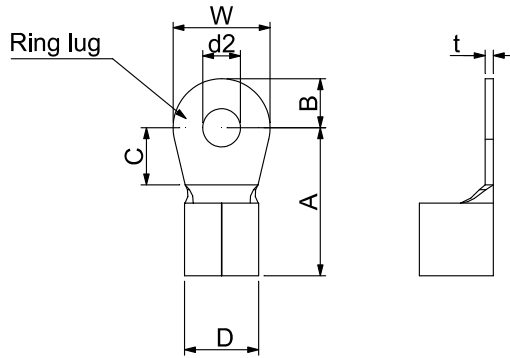

Figure 1.
- The following additional terminals are needed when wiring. The additional terminal dimension should comply with Figure 1 below.